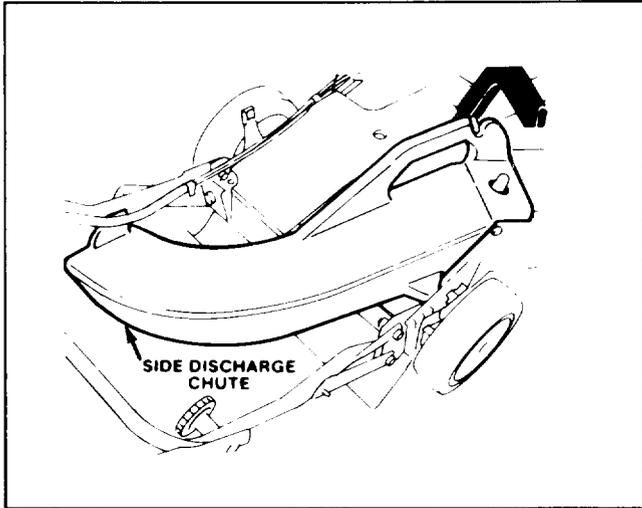

Figure 34
**1. Side Discharge Kit, Model No. 59168**—Installs in seconds. Rear mounted in place of the grass bag or discharge tunnel plug. Disperses clippings while trimming on both sides (Fig. 34).